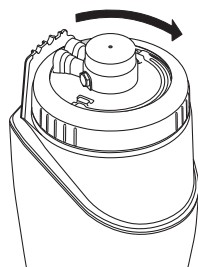

Fig. 43
13. **Screw** on the Retaining Ring until it hits a STOP. No exposed threads should be visible below the Retaining Ring. If threads are exposed, the Bracket is not pushed all the way down (Fig. 43).